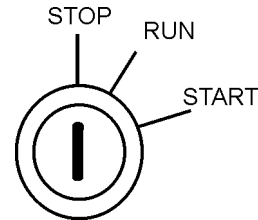

Figure 52. Ignition Switch (Stop Position)
- Place the ignition switch (Figure 52) in the **"STOP"** position, remove the key and store in a safe place.